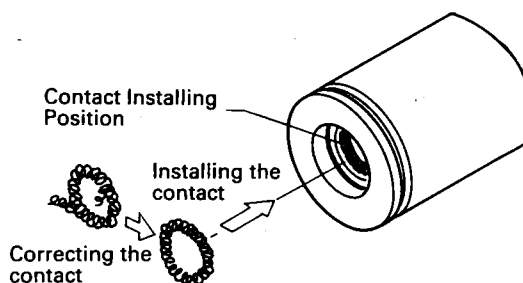

Figure 10.4 Contact Replacement
Note: When reinstalling the cell assembly ⑥, use new O-ring ⑦, contact ⑧ and filter assembly ⑤. Before installing the contact ⑧, check that it has a perfect ring shape. If end of the contact is protected from the ring, correct it. Next, install the contact to the place shown in Figure 10.4. Confirm that the contact is perfectly installed in the groove.